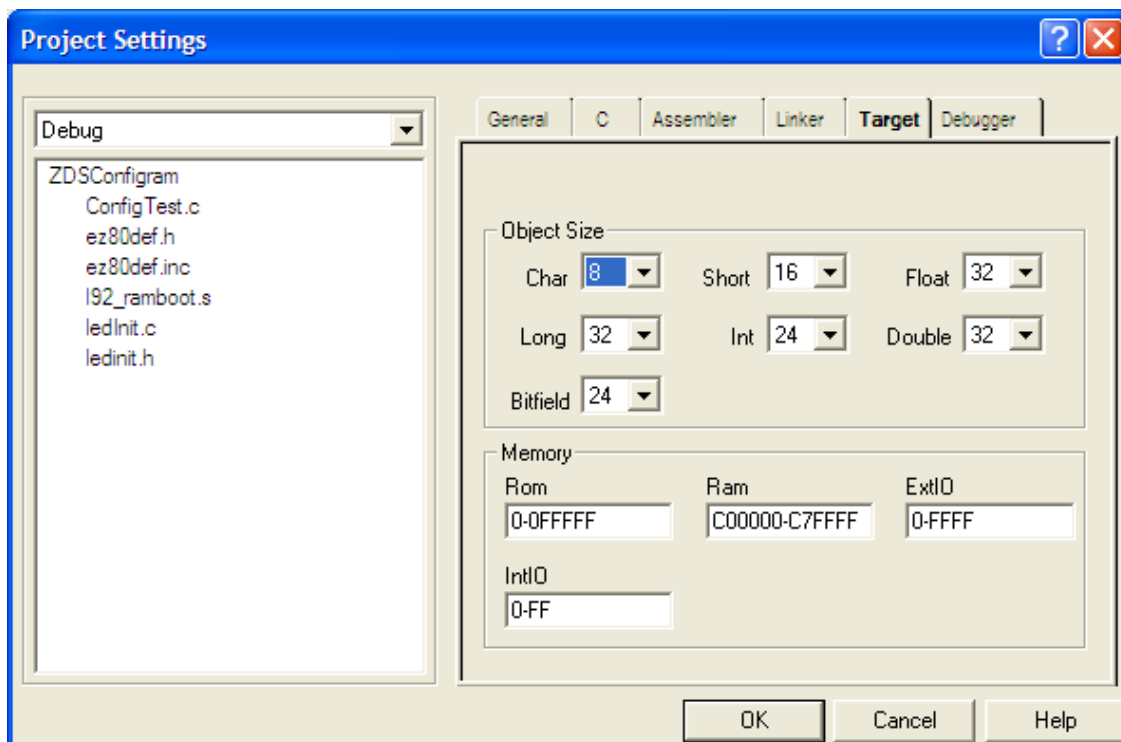

Figure 1. The Project Settings Dialog Box—Target Tab
1. The **Target** tab in the **Project Settings** dialog—please see Figure 1.